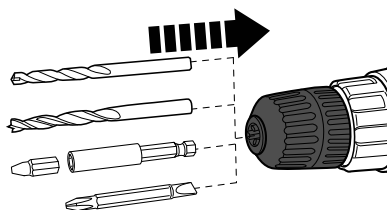

Fig. 2
2. Insert the drill bit all the way to the stop (Fig. 2). If using a 25 mm driver bit, insert it into the socket of a bit holder.